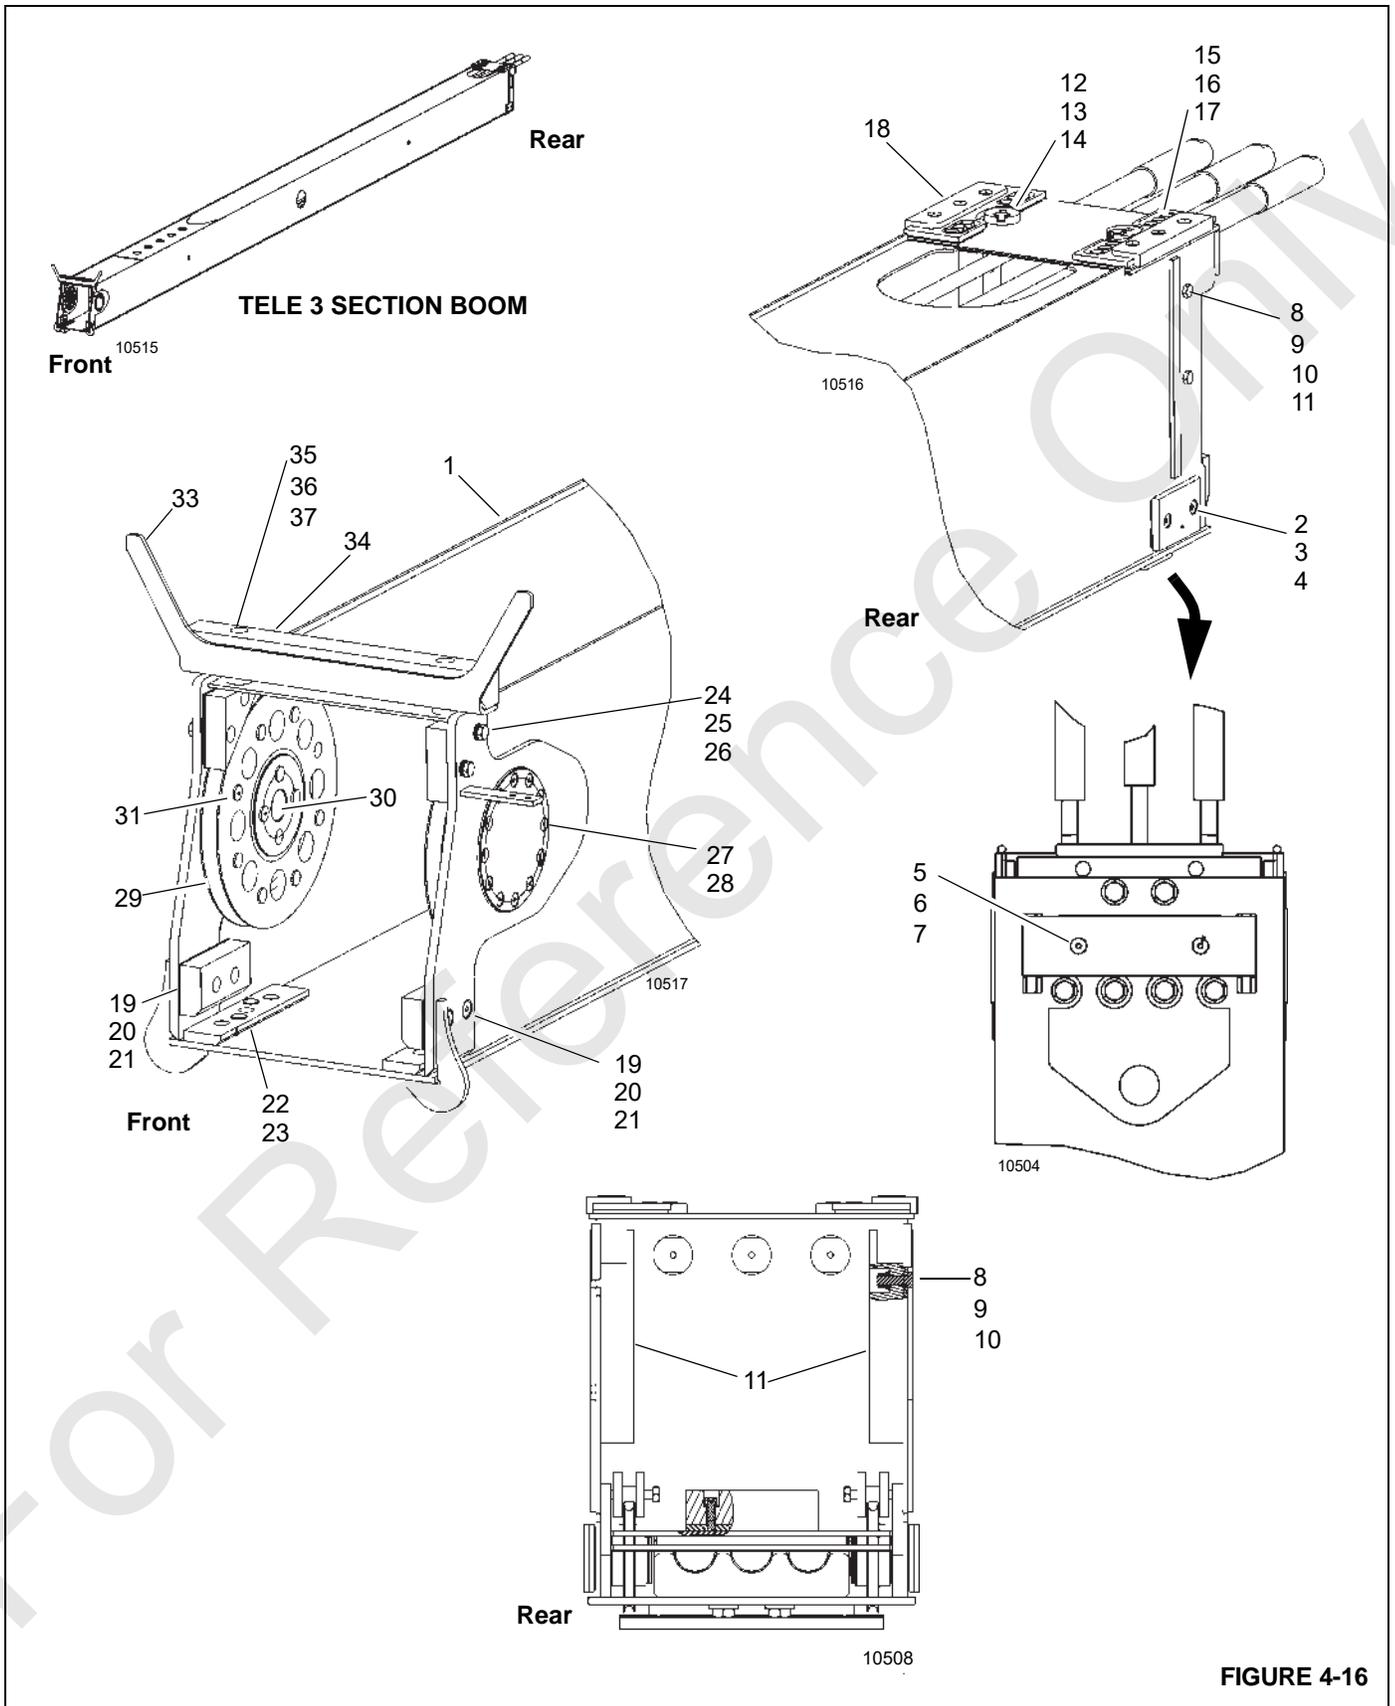
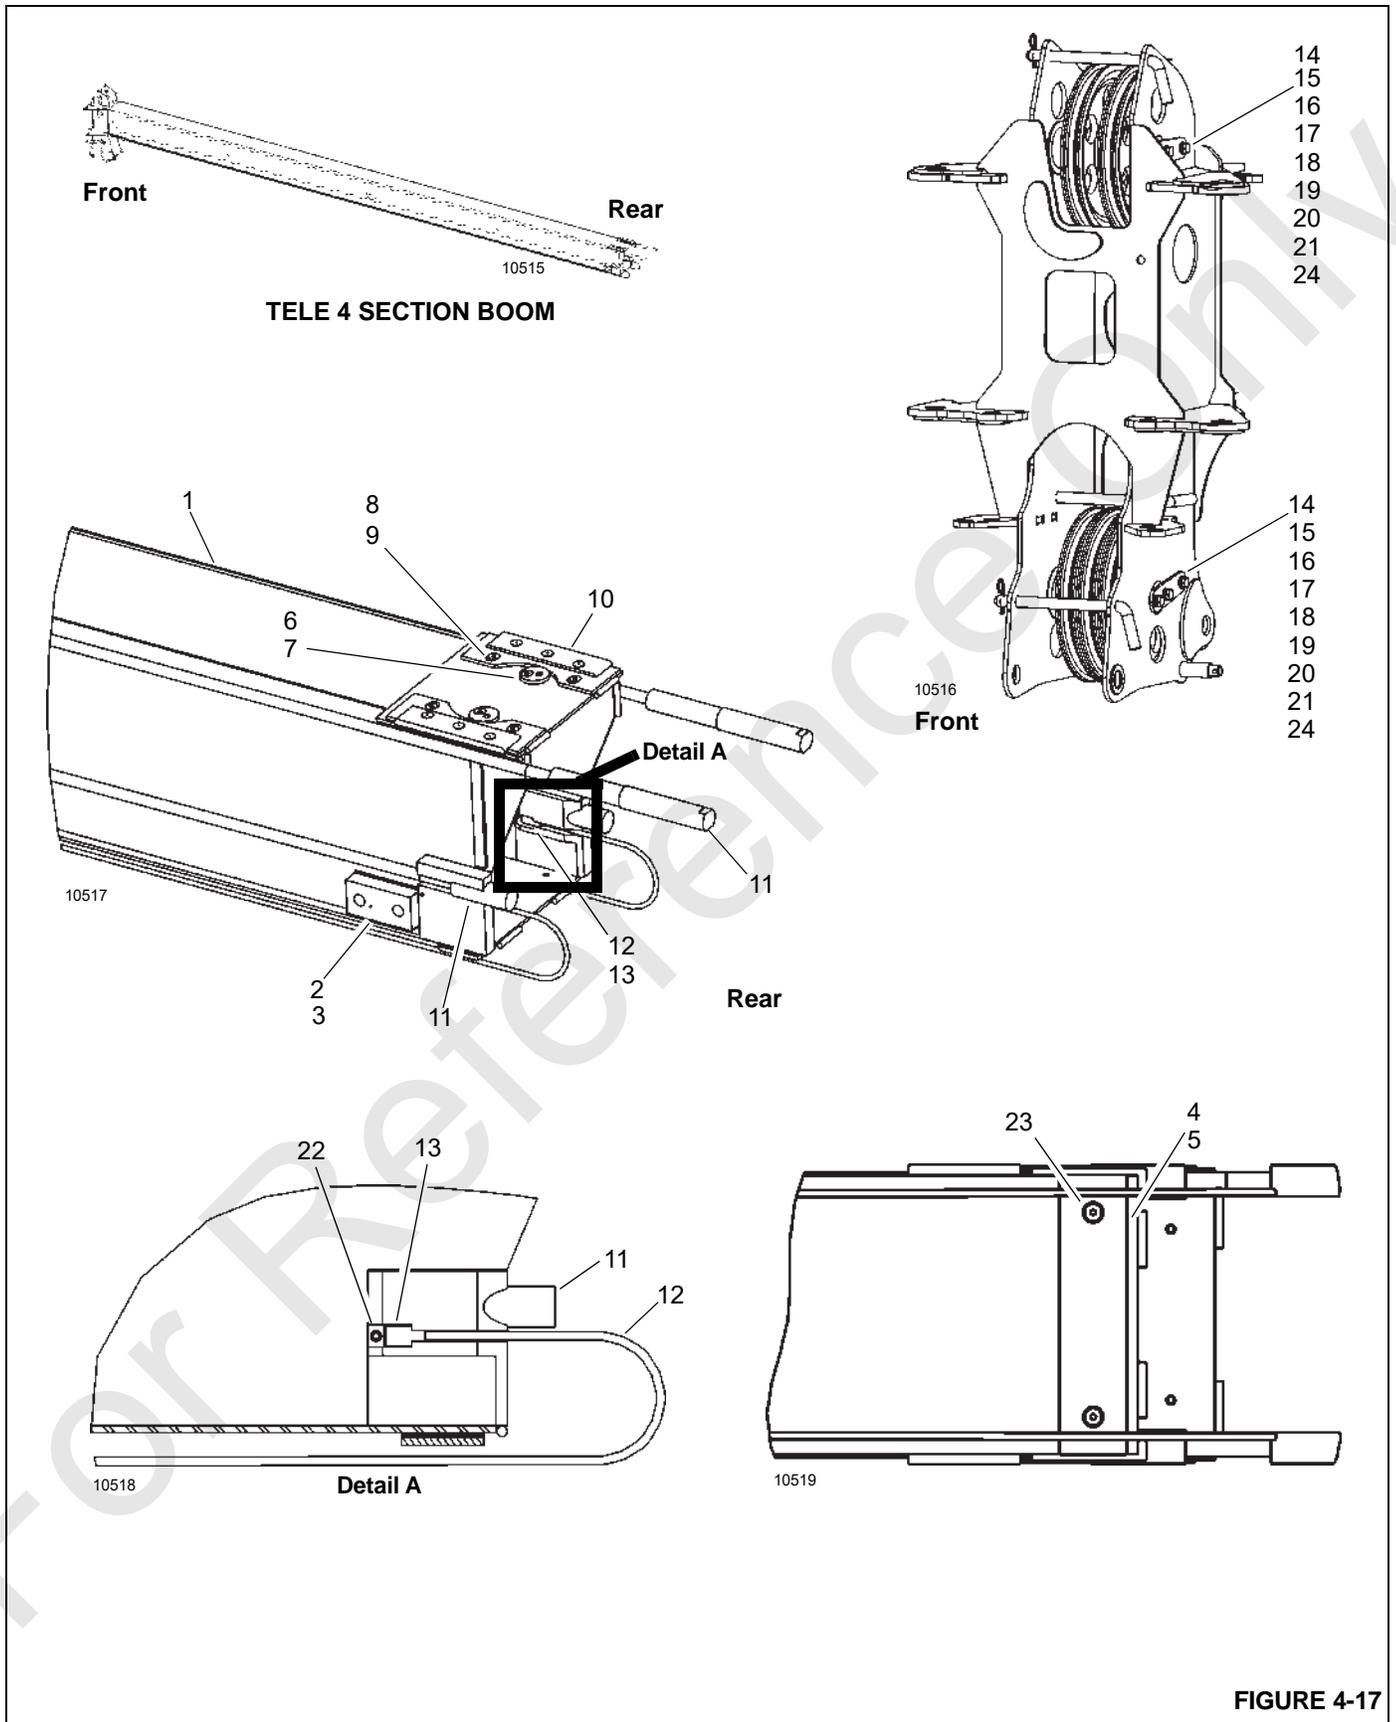

FIGURE 4-16
FIGURE 4-17
Use the following procedure to disassemble and remove Tele 4 section boom from the Tele 3 section boom (1, Figure 4-16).
5. Remove capscrews (15), washers (16), wear pad plate weldment (17), and wear pad (18) as needed from the Tele 3 section boom (1).
6. Attach a sling or chain to the tip of the Tele 4 section boom (1, Figure 4-17) and pull Tele 4 section boom out approximately 1828 mm (6 ft).
7. Remove and tag side capscrews (19, Figure 4-16), shims (20), and wear pads (21) from the tip of the Tele 3 section boom (1).
8. Remove and tag capscrews (22) and bottom wear pads (23) from the tip of the Tele 3 section boom (1).
9. Remove and tag capscrews (24), shims (25), and wear pads (26) from the top of the Tele 3 section boom (1).
10. Remove sockethead capscrews (27) from 3/4/5 extend sheave pins (28) and remove 3/4/5 extend sheave pins while removing 3/4/5 extend sheaves (29).
13. If necessary, tag and remove wear pads (3, Figure 4-17) and shims (2) from the rear of the Tele 4 section boom.
14. If necessary, tag and remove capscrews (23), wear pads (5), and shims (4) from the rear of the Tele 4 section boom.
Table 4-4 Tele 3 Section Boom Figure 4-16 Item List
Table 4-5 Tele 4 Section Boom Figure 4-17 Item List
1. Assemble and then install sheaves (14, Figure 4-17) and bearings (20) into the boom nose sheave case.
4. Raise the Tele 4 section boom against top of the Tele 3 section boom and install wear pads (23, Figure 4-16) and capscrews (22) into the bottom tip of the Tele 3 section boom. Lower the Tele 4 section boom onto wear pads in the Tele 3 section boom.
1. Install 3/4/5 extend sheave pins (28) and bearings (30) into 3/4/5 extend sheaves (29). Install wear plugs (31) into holes on each side of extend sheaves. Loop 3/4/5 extend cables (11, Figure 4-17) around 3/4/5 extend sheaves (29, Figure 4-16) and install 3/4/5 extend sheaves into the Tele 3 section boom. Install retaining capscrews (27) into 3/4/5 extend sheave pins (28) and torque.
2. Install upper side wear pads (26) with shims (25) and capscrews (24). Install the lower side wear pads (21) with shims (20) and capscrews (19) on front inside of the Tele 3 section boom.
3. Install the cable guide (33) with wear pad (34) and related hardware (35, 36, and 37) on the top front of the Tele 3 section boom. Push Tele 4 section boom into the Tele 3 section boom until top wear pads on base of Tele 4 section boom (10, Figure 4-17) are accessible through the access hole in the rear of the Tele 3 section boom. Center the Tele 4 section boom within the Tele 3 section boom, then adjust the top wear pads according to the calibration instructions in this section. Push the Tele 4 section boom completely into the Tele 3 section boom keeping 3/4/5 extend cables taut and scribe a mark in the tip of the Tele 4 section boom in front of side wear pads on the Tele 3 section boom for retract sequencing (Figure 4-27).
5. Push button ends of 5/4/3 retract cables (12, Figure 4-17) through openings in the bottom base of the Tele 3 section boom and drape button ends out of the back of the Tele 3 section. Pull threaded ends of 5/4/3 retract cable (12) towards tip of boom. Install button end of 5/4/3 retract cables (13, Figure 4-17) into anchor plates at the bottom base of the Tele 4 section boom. Secure with setscrews (22).
NOTE: Use caution to keep 5/4/3 retract cables (12, Figure 4-17) taut, not crossing cables and keeping all cables clear of pinch points created by slings and bottom pads.
4. Assemble 5/4/3 retract cable keepers (18) onto 5/4/3 retract cables (12, Figure 4-17), double nut just beyond flat at threaded end of retract cables and assemble at bottom tip of Tele 2 section boom.